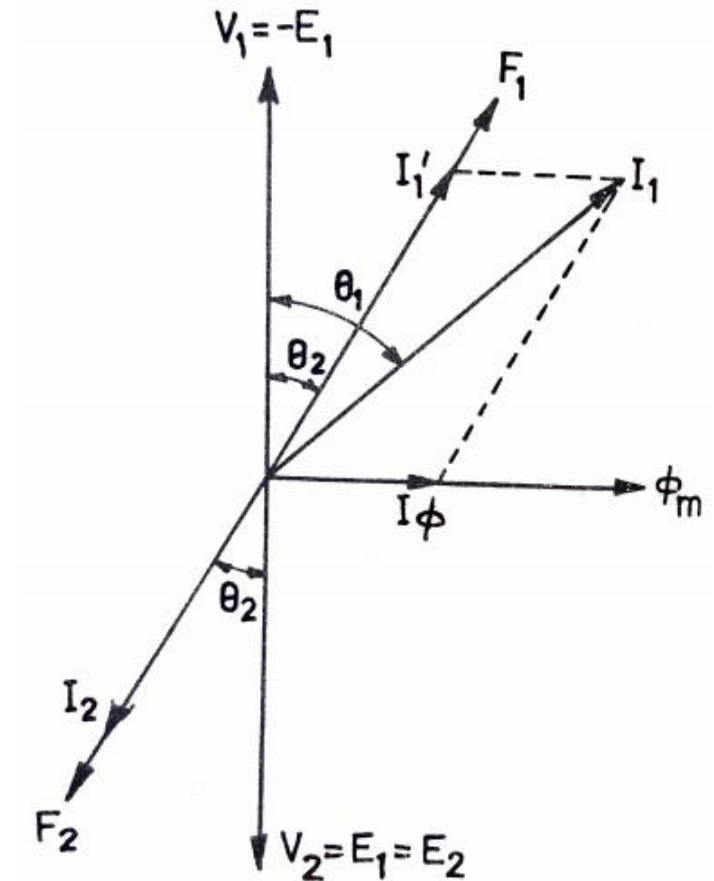

Fig. 8.10
- ✓ Assume I_2 lag behind V_2 by an angle θ_2 , the phasor diagram under load for an ideal transformer is drawn in **Fig. 8.10**.
- ✓ Since mmfs F_1 and F_2 tend to magnetize the core in opposite directions, they are shown in phase opposition in **Fig. 8.10**.